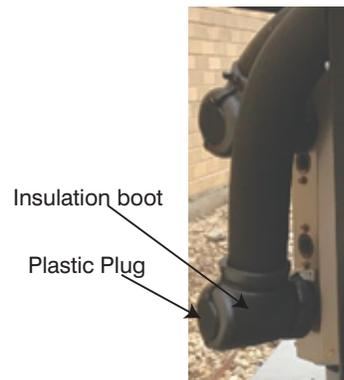

Fig. 16 — Insulation Boots
- 12. Attach the foam insulation boots over the fittings at the unit. Secure with foam insulating tape (Fig. 16)
- 14. Insert plastic plugs into the insulation boots (Fig. 16).